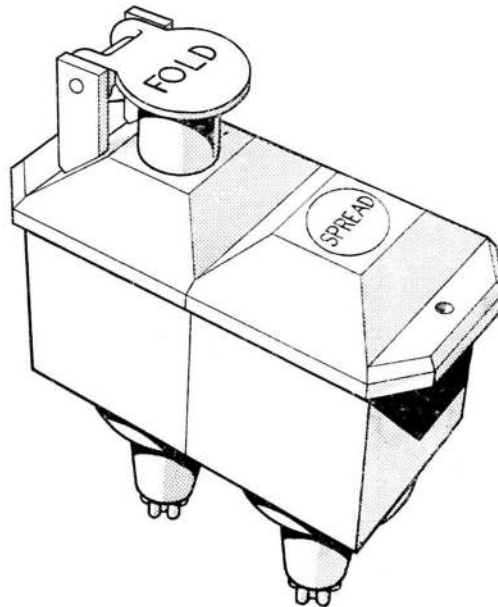
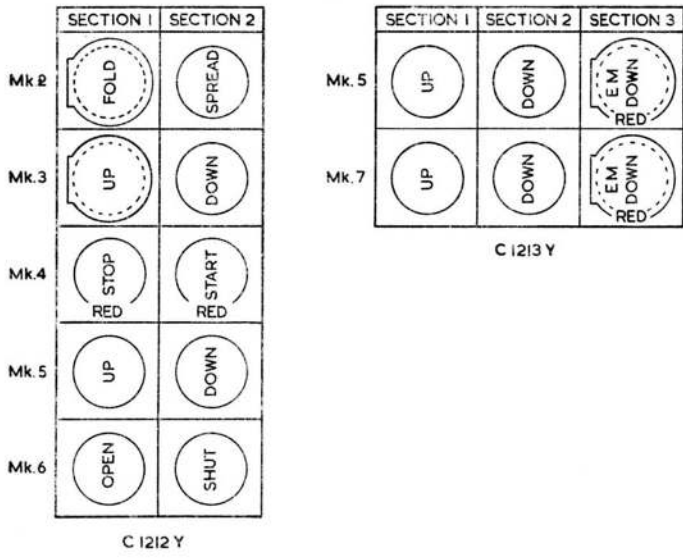

Fig. 1. Push-switch, Type C1212Y, Mk. 2
Fig. 2. Switch details
2. A general view of a typical switch of this range, the Type C1212Y, Mk. 2, is shown in fig. 1. Details of the various marks are given in fig. 2, and in Table 1, from which it will be seen that there may be either two or three switch sections with or without locking mechanism and with or without safety flaps. The switches with a locking mechanism, become unlocked when a 24-volt d.c. supply is connected across terminals 5 and 6. The lock can be overridden manually by a pressure of approximately 40 lb., but the override is for emergency use only, and to avoid wear it should not be operated frequently.